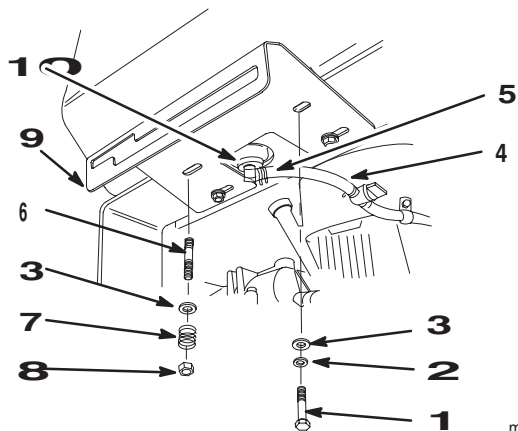

Figure 3
- Secure the right side control panel and fuel tank to the rear frame (Fig. 3) with 2 bolts (5/16 x 7/8 in. (22mm)), lock washers (5/16 in.) and washers (5/16 in.) (Fig. 3).
- Secure the left side control panel and fuel tank to the rear frame (Fig. 3) with 2 studs, washers (5/16 in.), springs and locknuts (5/16 in.) (Fig. 3).
- Slide the hose clamp onto the fuel line (Fig. 3).
- Push the fuel line onto the fuel tank connection and secure it with a hose clamp (Fig. 3).